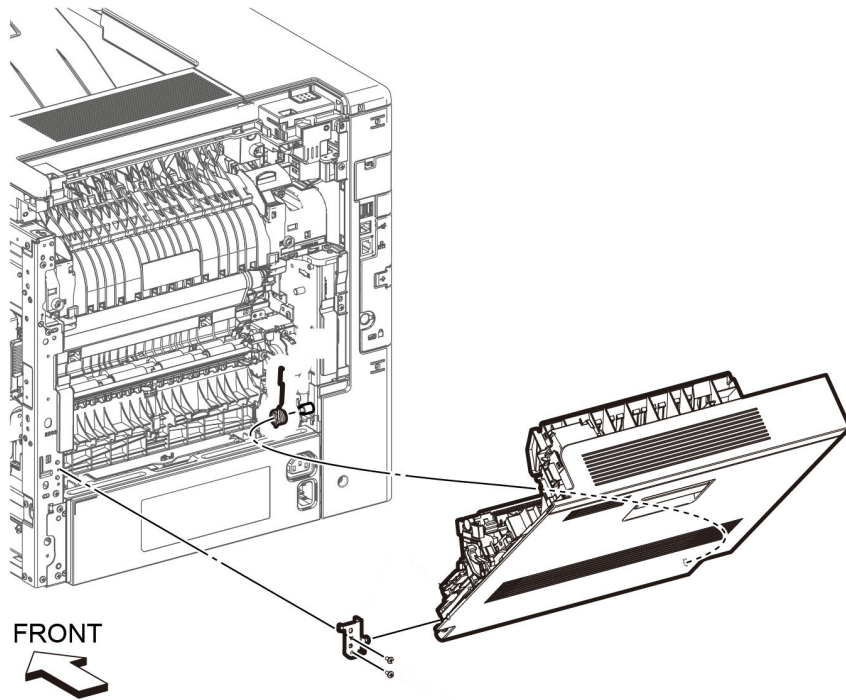

Figure 1 Remove the Rear Cover Assembly (C500/C600)
3. Refer to Figure 1, to remove the ends of the two rear cover straps from the rear cover.
5. Refer to Figure 1, to remove the two screws (silver, M3x6mm) attaching the right rear hinge.